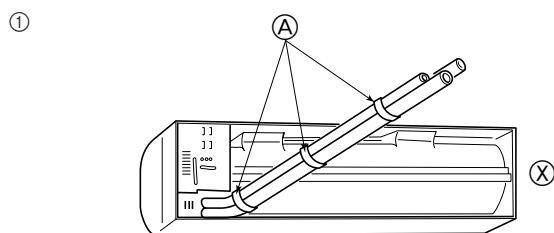
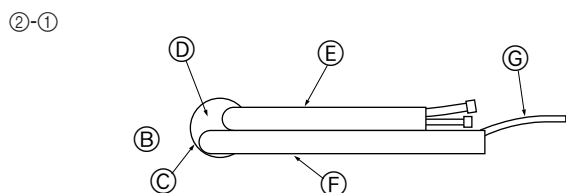

Fig. 3-4
Fig. 3-5
- ① Fasten a thread to the hole
- ② The level can be easily obtained by hanging a weight from the string and aligning the string with the mark.
① Rear, right and lower piping (Fig. 3-4)
② Left and left rear piping
- ②-① For left rear piping, pull the pipes out the hole to determine their correct length, then bend them. The indoor unit should hang on the wall mounting fixture. (Fig. 3-5)